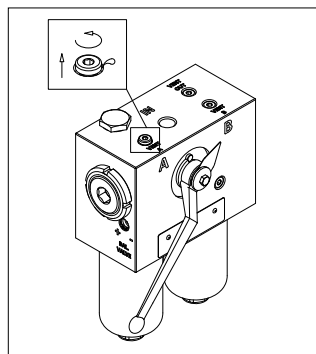

fig. 3
- (Fig. 3) Bleed the possible air from the system on the NEW SIDE by loosening the breather plug “Vent A” or “Vent B” by a maximum of one turn, until the operating fluid starts oozing